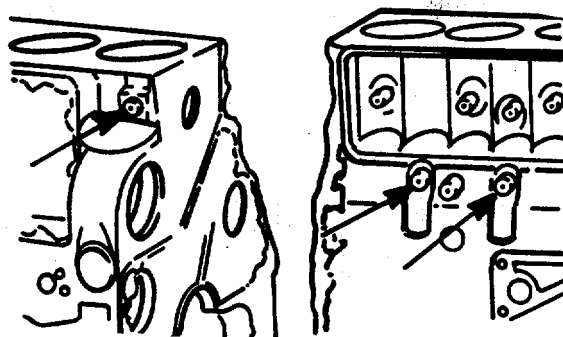

FIGURE 4-99. Install Pipe Plugs.
- o. Install a bead of liquid teflon sealant to the pipe plugs; install pipe plugs. (FIGURE 4-99)